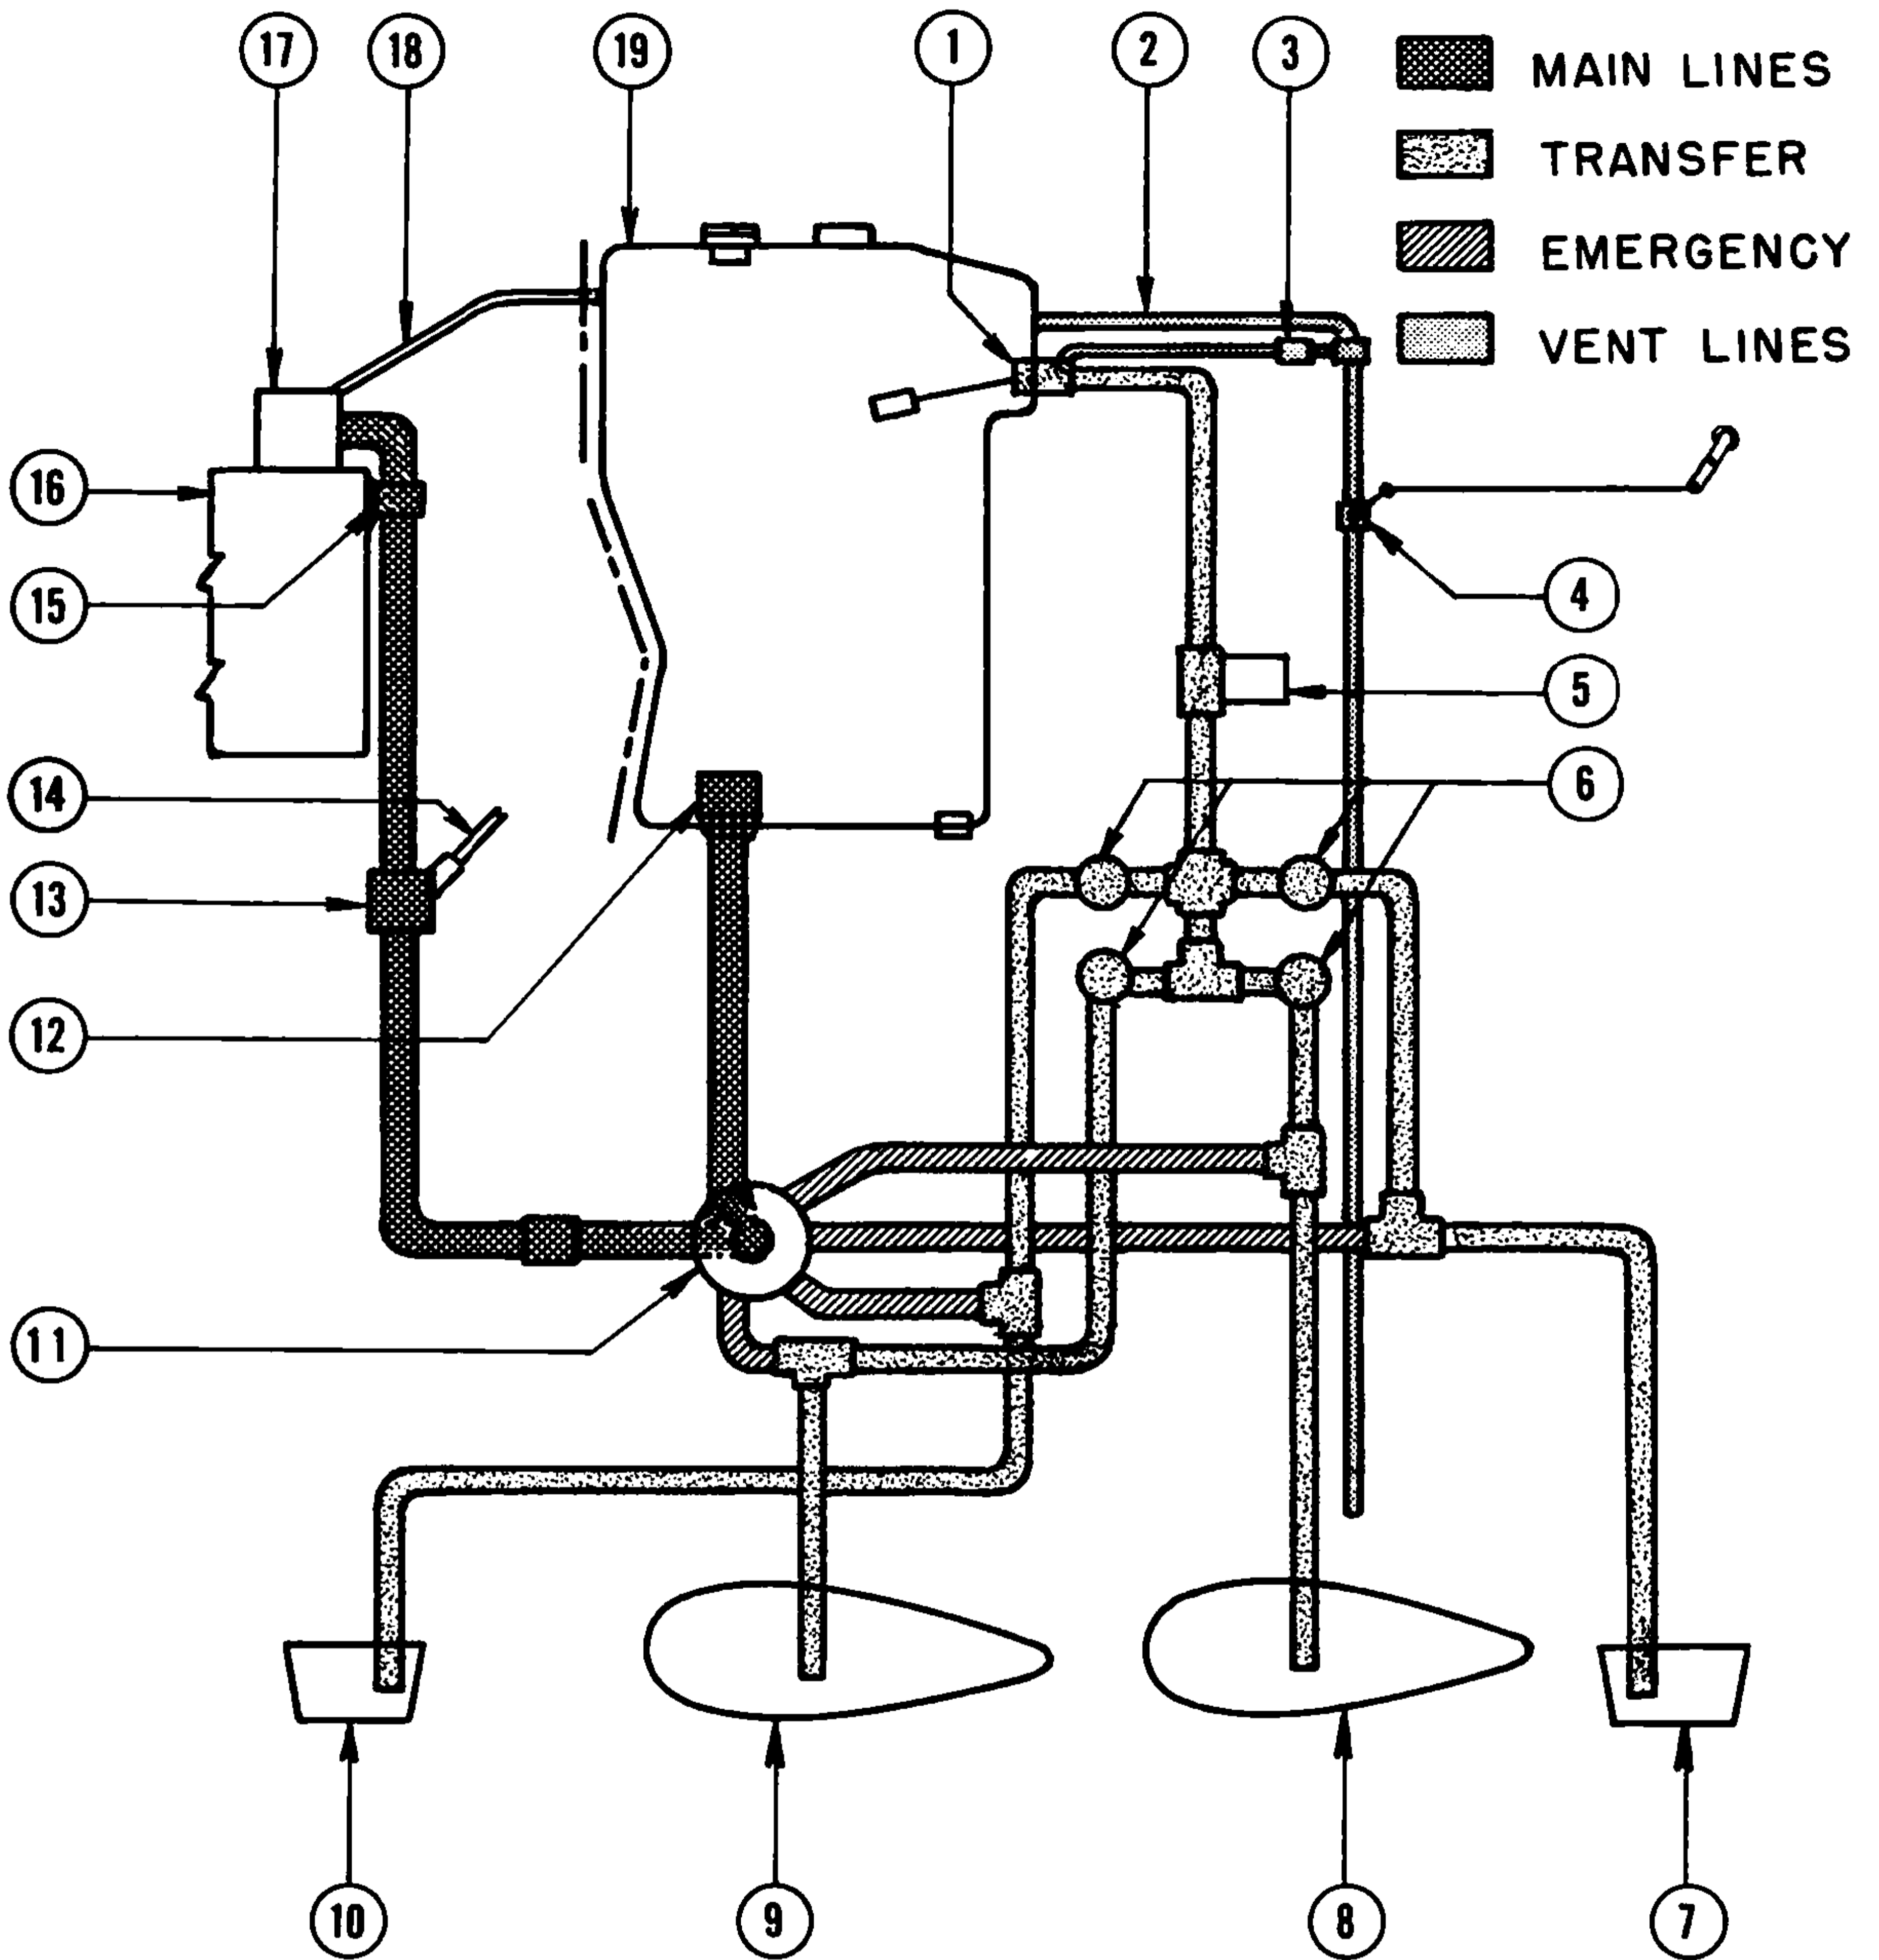

Figure 10 — Fuel System
c. **FUEL SYSTEM.** (See figure 10.)
Examination of figure 10 will indicate that fuel to the carburetor is normally delivered only from the main fuel cell, and that the other tanks serve only to refill the main cell. For this reason the fuel system accessories, such as the quantity gauge and indicator, transfer indicator, tank pressurizing controls and vapor return line are all associated with the main cell.